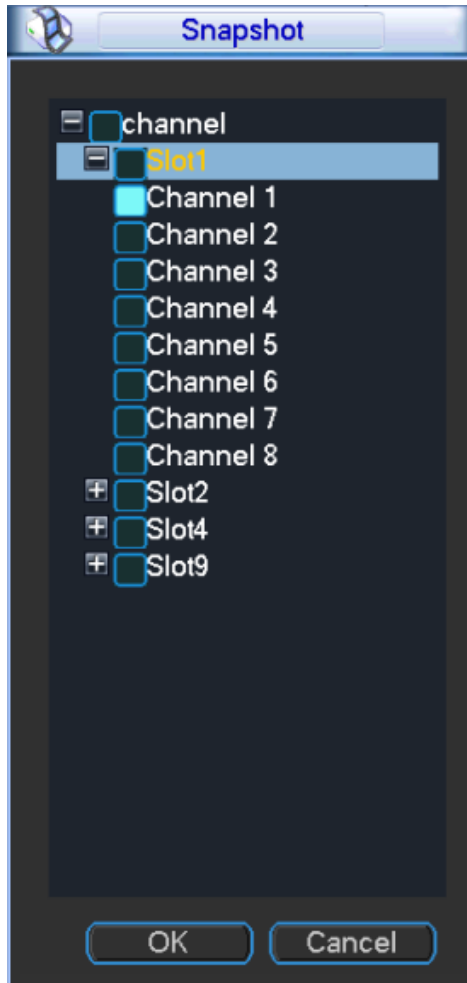

Figure 3- 54
- Snapshot: Enable snapshot by checking . Snapshot when motion detection starts. Click select to set certain channels. See Figure 3- 54.